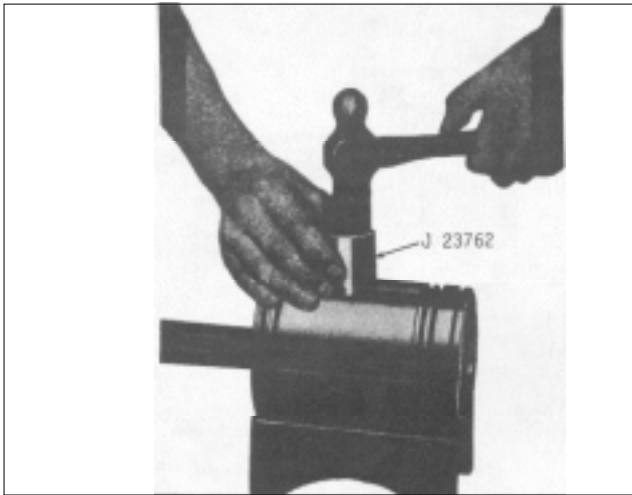

Fig. 9
- (8) Place a new piston pin retainer in position. Place the crowned end of installer J 23762 against the retainer and strike the tool just hard enough to deflect the retainer and seat it evenly in the piston (Fig. 9).
- (9) Install the second piston pin retainer in the same manner.